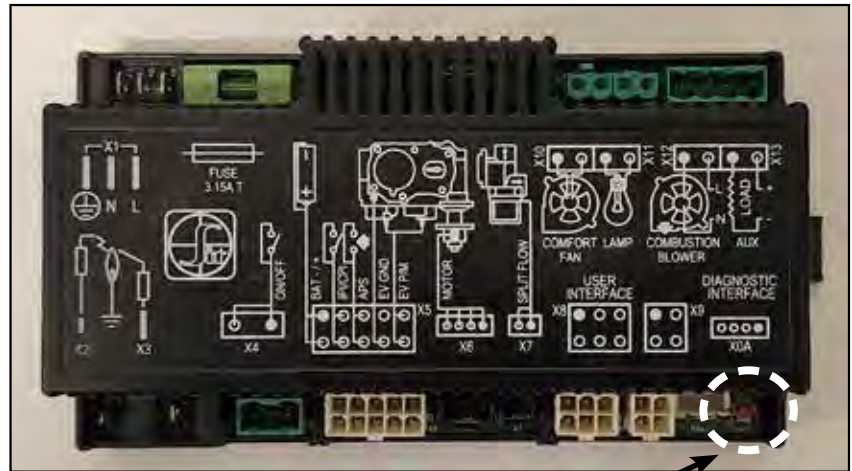

Figure 4: Integrated Fireplace Controller
The IFC is the master controller for your fireplace control system known as Proflame 2. This unit will control all aspects of the fireplace by receiving commands from the remote transmitter. This controller is powered by 120VAC but can also run off a (4) AA battery backup if there is a power outage. Only main burner control can be used while operating with the battery back up; auxiliary components, such as the convection fan, cannot be used. Use the reset button (see Figure 4) to synchronize the remote transmitter to the IFC for the first time, or after batteries have been replaced.
Install the four (4) supplied AA batteries into the IFC battery holder (see Battery Backup section). Install the three (3) supplied AAA batteries into the back of the remote transmitter. Press the reset button on the IFC (see Figure 4) and listen for three (3) beeps. Press the ON key on the remote transmitter and listen for another beep sequence. Once the command has been accepted then the system is initialized and ready for use.